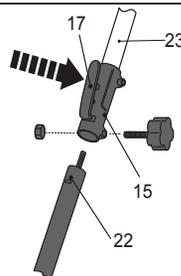

FIG. 5
2. Align the lower shaft (22) with the clamp (15) so that the slot is orientated to the slot in the clamp (15) (Fig. 5).